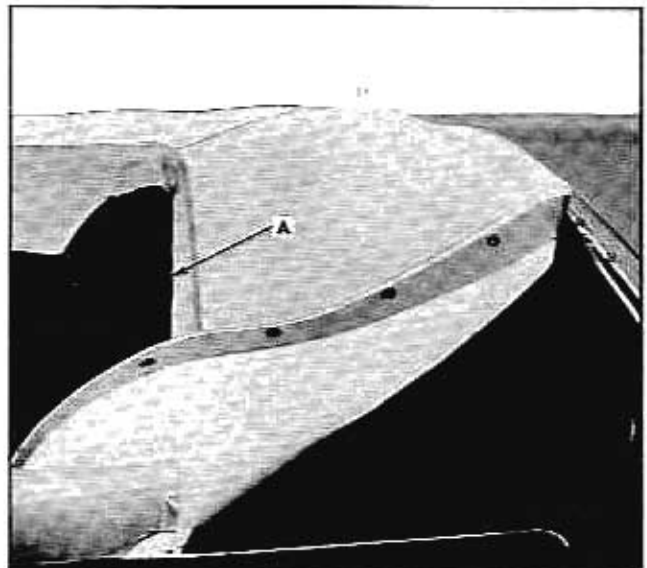

Fig. 7-11 Top Boot Partially Installed
2. Place top boot in position over folded top and engage several boot fasteners to studs along rear molding. Then adjust boot to remove wrinkles by sliding forward edge of boot to right or left in retainer (Fig. 7-11).